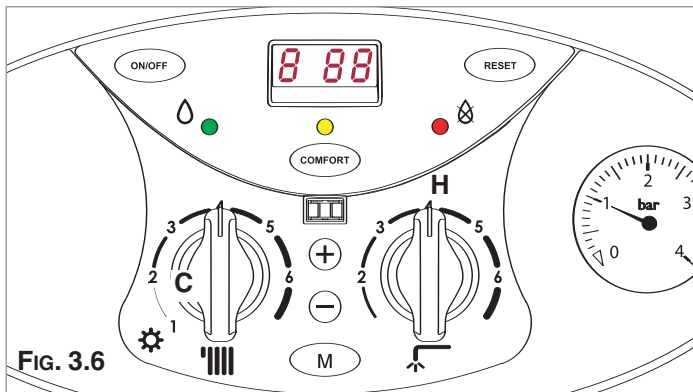

FIG. 3.6
- push the On/off button **ON/OFF** and turn the knob "C" (Fig. 3.6) to the "winter" position. The boiler pump will start up and three consecutive attempts will be made to ignite the burner. After the third attempt, the electronic system will shutdown the boiler, because the supply of gas has been cut off. The message "R0?" will appear on the display and the red LED "H" will illuminate;